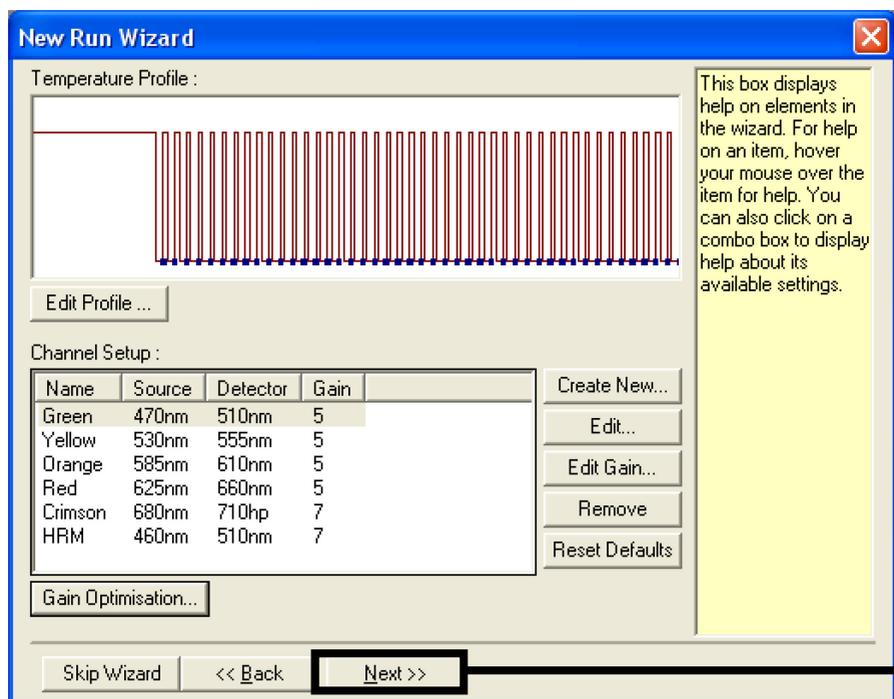

Figure 7. The “New Run Wizard” dialog box and temperature editing screen. 1 = “Next.”
- 13.** This next window allows editing of the temperature profile. No editing is required as the temperature profile has been created according to the instructions in the “Protocol: Creating a temperature profile,” page 32. Click “Next” (Figure 7).